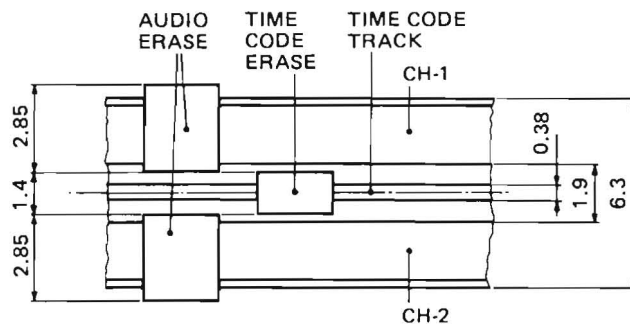

Fig. 4-6
2. Using magnetic developing fluid or a "magnetic viewer" to make the tracks visible, measure the track spacing and adjust the head height so that the track spacing conforms to the dimensions shown in Figure 4-6.